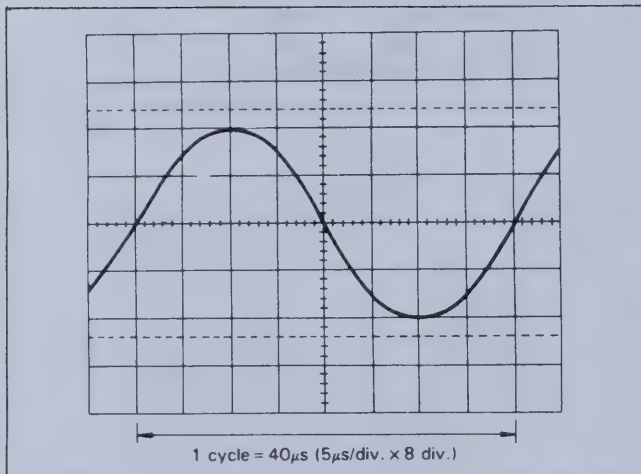

Fig. 9. Frequency Measurement.
Method No. 1 (Refer to Fig. 9)
1. Set up the oscilloscope to display one cycle of waveform (see Fig. 9).
In the example shown in Fig. 9, a period of 40 μs is observed. Substituting this value into the above equation, the frequency is calculated as follows: